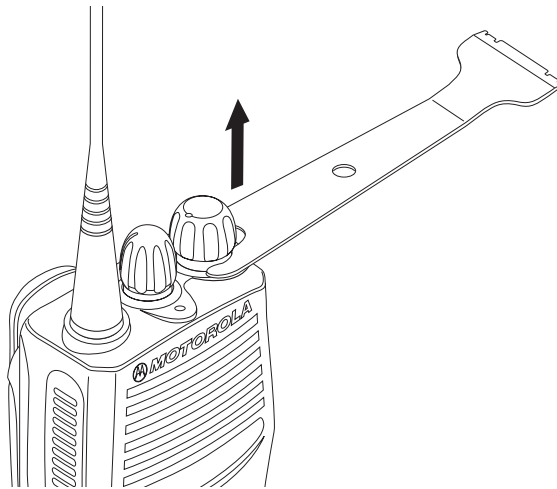

Figure 2-2. Knob Removal
4. Pry off the volume and channel selector knobs from their shafts using the knob remover/chassis opener tool (Motorola part # 6686533Z01) (Figure 2-2).